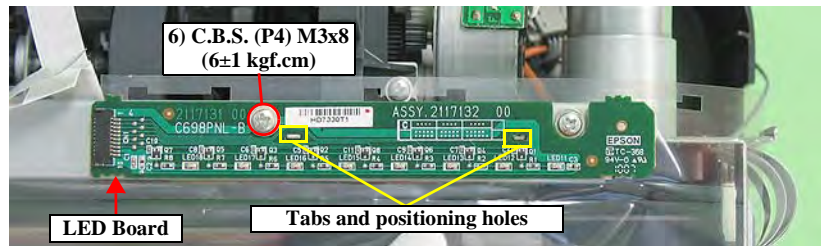

Figure 4-35. Removing the LED Board (3)
- Align the two tabs on the Upper Housing with the positioning holes on the LED Board. (Refer to Figure 4-35.)